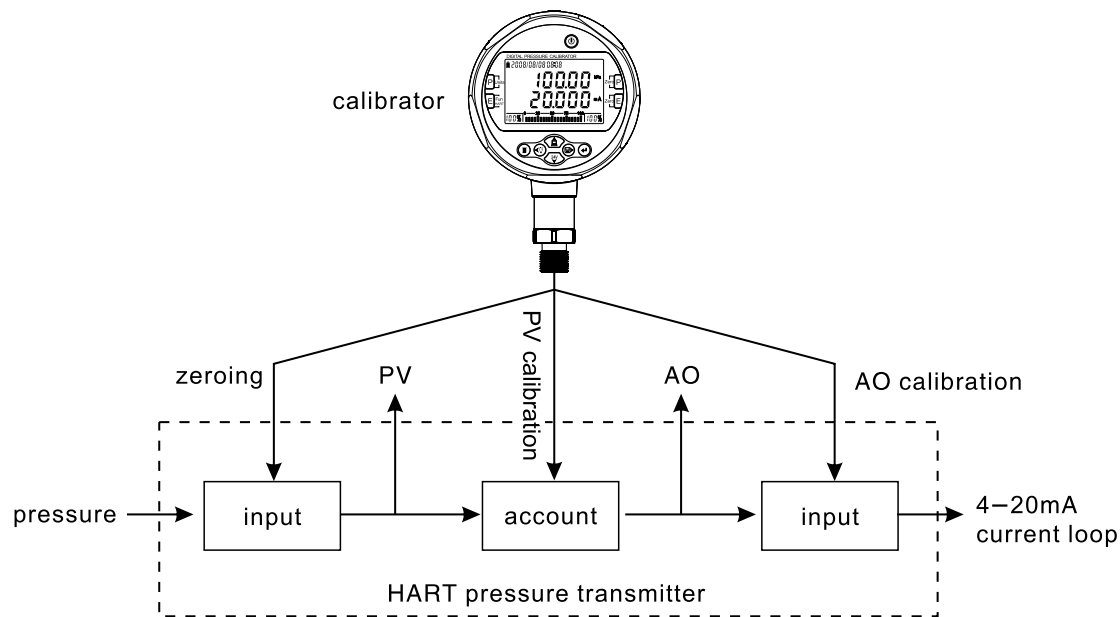

Figure 4-5: HART transmitter working setup map
(1) Please refer the figure 4-5: HART transmitter working setup map